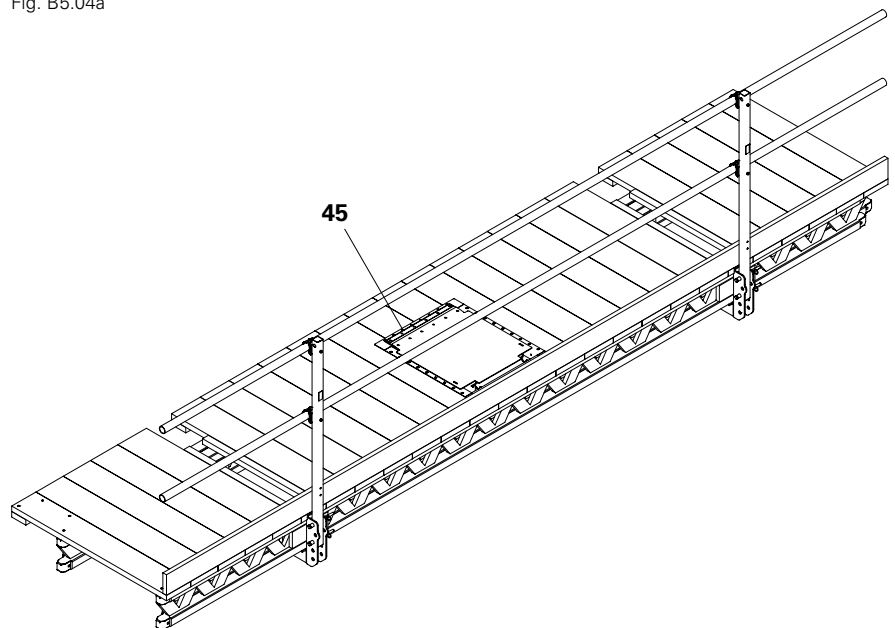

Fig. B5.04b
2. Secure frame of the hatch and decking using approx. 16x TSS Torx 6 x 40 (**45**) (2 per plank). (Fig. B5.04b)